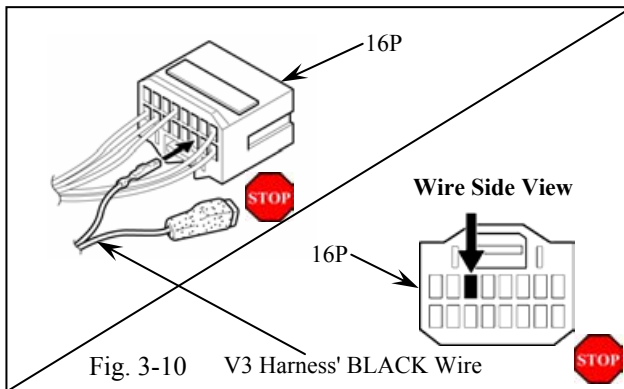

Fig. 3-10
- (p) Insert the terminal at the end of the V3 harness' BLACK wire into the top row, third space from the left of the vehicle harness' 16P connector. (Fig. 3-10)
- (1) Turn the connector so the wire faces you and the tab is on top.
- (2) Verify the correct opening is chosen.
- (3) Verify the terminal is inserted and seated properly.
- (4) The terminal should not come out when pulled lightly from the back. If the terminal comes out, push it in further until securely seated.